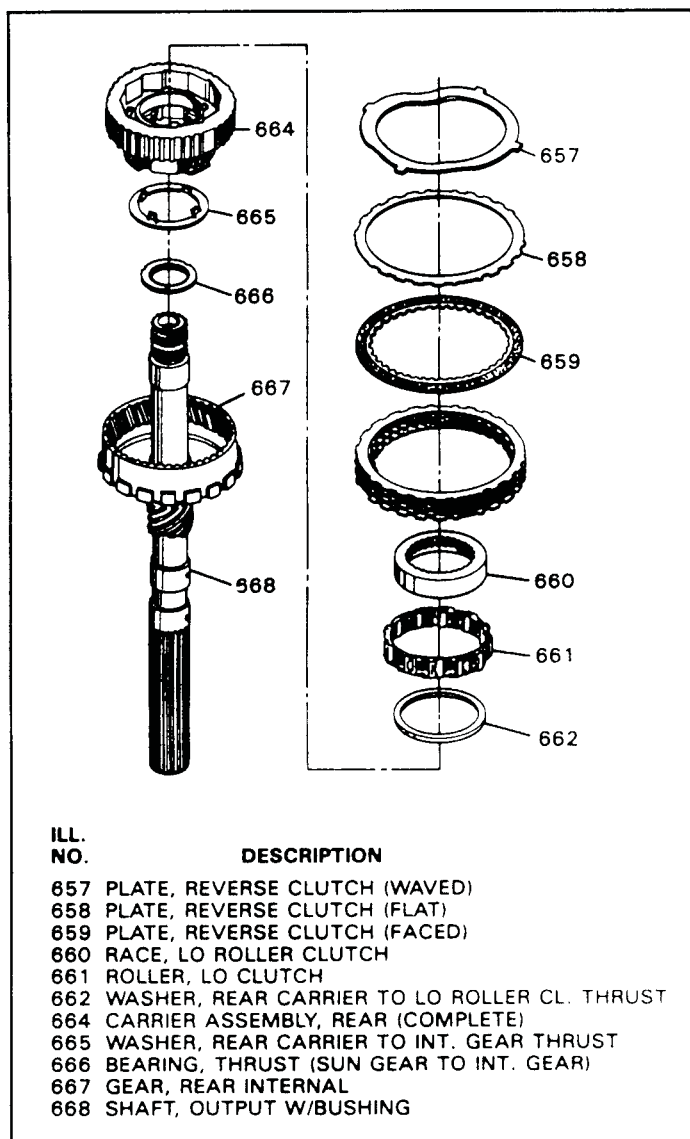

Figure 65
14. Inspect the output shaft and the rear internal gear for any wear and/or damage (See Figure 65).
17. Install the 4 tanged thrust washer onto rear carrier, and retain with "Trans-Jel" (See Figure 65).
18. Install the rollers into cage of the low roller clutch as shown in Figure 65.
19. Install thrust washer (662) into the rear carrier, as shown in Figure 65.
20. Install the low roller clutch assembly into the rear carrier (See Figure 65).
21. Install the roller clutch inner race, with the spline side facing out, into the rollers by rotating counter clockwise into position and pushing down for full engagement (See Figure 65).
22. Install the thrust bearing (666) into the rear ring gear, as shown in Figure 65.
28. Install the Lo/Reverse clutch plates into the case, beginning with a steel plate and alternating with a lined plate (See Figure 65).
29. You should end up with a steel plate going in the case last, as shown in Figure 65.
30. Install the Lo/Reverse "Wave" plate on top of the last steel plate, as shown in Figure 65.